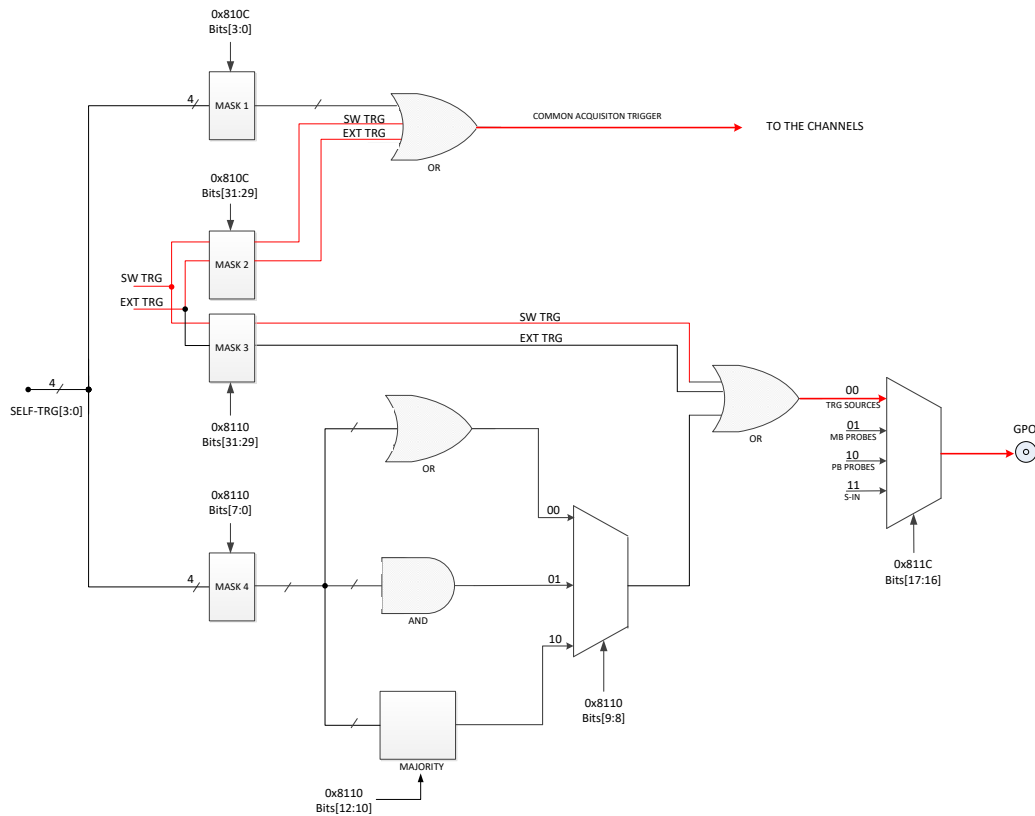

Fig. 7.14: Trigger configuration of TRG-OUT front panel connector.
As described in Sec. **Trigger Management**, the OR of all the enabled trigger sources, synchronized with the internal clock, becomes the common trigger of the board that is fed in parallel to all channels, consequently causing the capture of an event. By default, only the Software Trigger and the External Trigger participate in the common acquisition trigger (refer to the red path on top of Fig. 7.14).
- the OR of all the enabled trigger sources (only the Software Trigger is provided by default, as in the red path of Fig. 7.14);